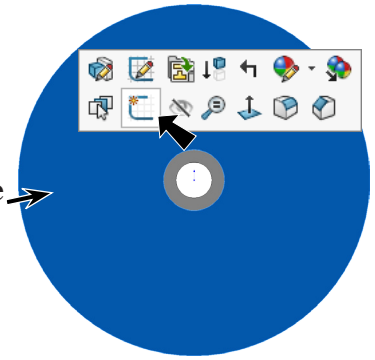

Fig. 12
Step 1. Click the **side face of wheel** and click **Sketch**  on the context toolbar, **Fig. 12**.
Step 2. Click **Circle**  (S) on the Sketch toolbar.